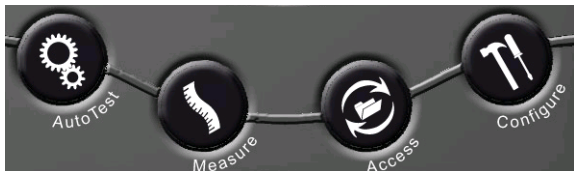
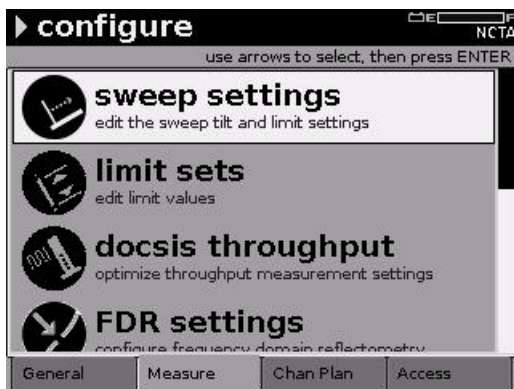

Figure 5 DSAM Meter Mode Keys
Figure 12 Configure Mode Measure Menu
- Four **Mode** keys (Figure 5) used to access the meter's four primary functional modes
Using the mode keys Use the mode keys (Figure 5) to directly access the top level menu of features associated with each mode.
Selecting a Configuration Mode To view the Configure General menu (see Figure 11 on page 24), press the **Configure** mode key (Figure 5 on page 18), then press the **General** softkey.
Measurement Configuration To view the Configure Measure menu (Figure 12 on page 26), press the **Configure** mode key (Figure 5 on page 18), then press the **Measure** softkey.
To view the Configure Channel menu (Figure 13), press the **Configure** mode key (Figure 5 on page 18), then press the **Channel Plan** softkey.
Access Configuration To view the Configure Access menu (Figure 14), press the **Configure** mode key (Figure 5 on page 18), then press the **Access** softkey.